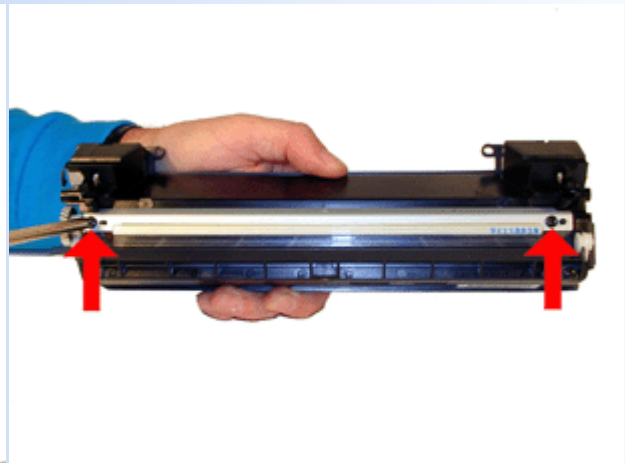

FIGURE 12
12. Remove the two screws and the Dr. Blade. Be very careful not to damage the alignment pins when removing the blade. See Figure 12